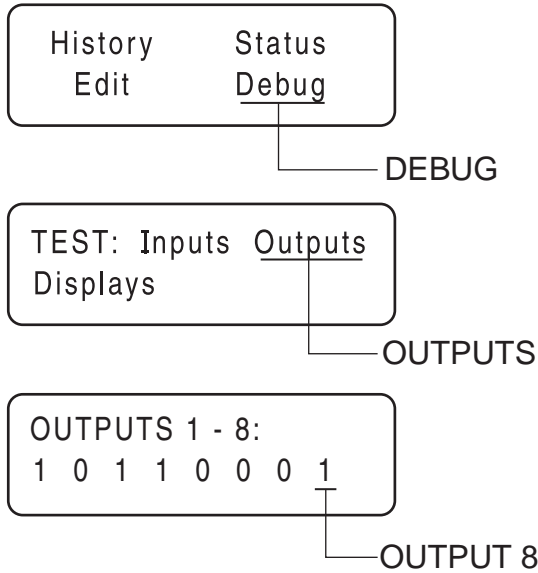

Figure 5. The Home Page, Debug and Output Screens
- b. Navigate to the Digital Output Display Screen (see Figure 5).
- (1) Press "ESC" until the main menu is reached.
- (2) Press the right arrow key until "Debug" is flashing.
- (3) Press "Enter".
- (4) Press the right arrow key until "Outputs" is flashing.
- (5) Press "Enter".
- (6) Digital Output 8 is Wire 23 output from the board. Refer to Figure 5.
- (7) If Output 8 shows a "1" then the control board is grounding Wire 23. Replace the printed circuit board.